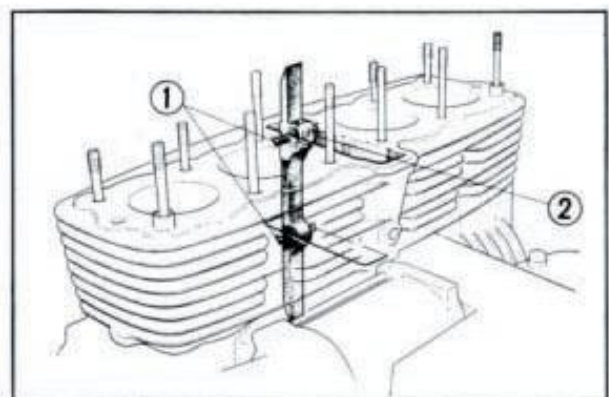

Fig. 81 ① Pins ② "UP" mark
8. Insert the cam chain guide into the cylinder as shown in Fig. 81.